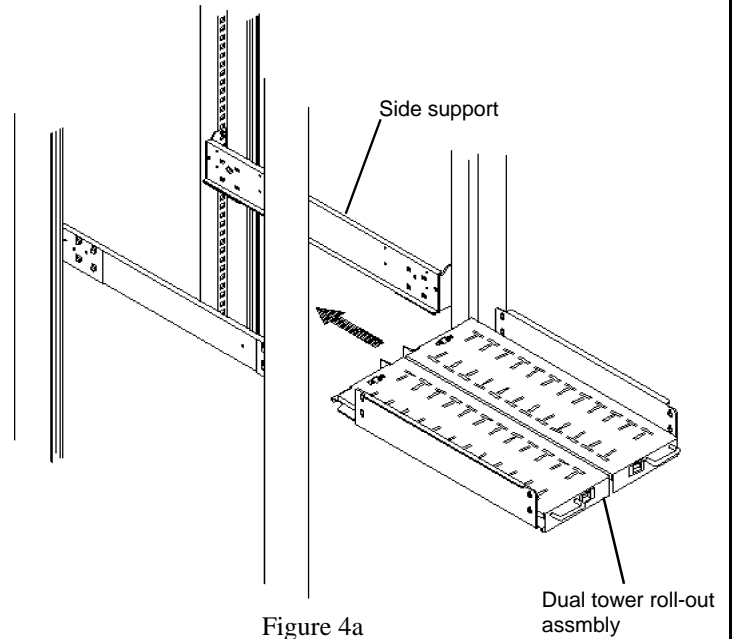

Figure 4a
5. With the handles toward the front, position the Shelf on the Side Supports and slide it towards the back of the LAN Locker II unit until the four keyhole shaped holes in the Roll-out Shelf side flanges align with the holes in the Side Supports. See **Figure 4a**.